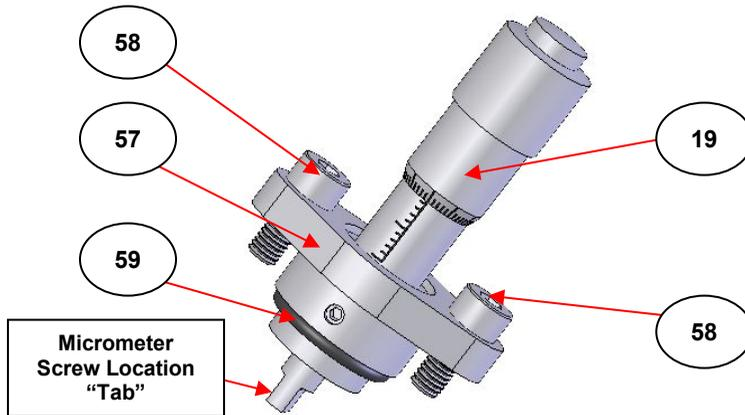

Fig 35. Micrometer Adjustment Screw Parts of C5, C10 (A) Type Cells
Remove the micrometer clamp plate screws (58) and pull up on the micrometer screw (19) to lift it and the clamp plate (57) away from the top of the gas cell. There is a sealing O-ring (59) for the micrometer screw (19) which may be retained in the recess hole or it may come away with the micrometer screw when removed. (See Fig 35.).
Remove the location tool (**60**) and re-fit the micrometer screw and clamp plate assembly (**19** and **57**) to the top of the gas cell ensuring that the O-ring (**59**) is in position and is suitable to use. Make sure the micrometer screw location “tab” part (see Fig 35.) engages with the **OM2** slot screw adjustment mechanism and rotates freely without binding.